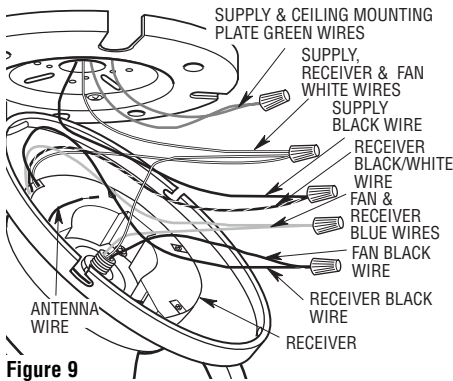

Figure 9
- 1. Position the receiver into the fan motor housing as shown in Figure 9.
- 2. Refer to Figures 9 and 10 to connect the receiver wires to the supply wires and the fan motor wires using the wire connectors supplied with the fan as follows: